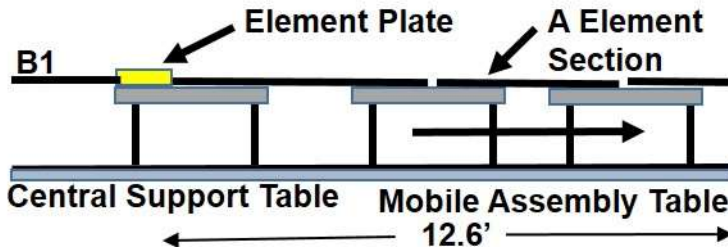
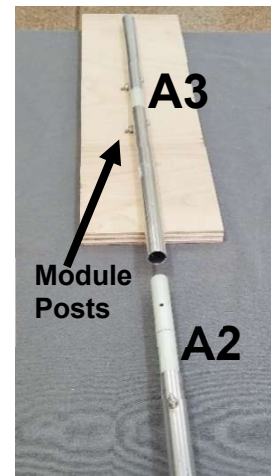
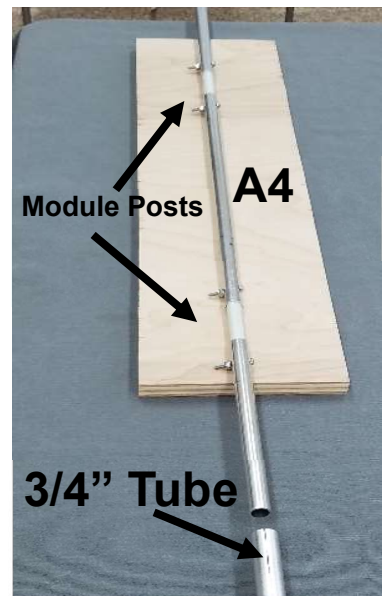

FIGURE 31
FIGURE 32
FIGURE 44
The next steps will be adding sections A3 and A4 to section A2 of half-element A. As a result, the half-element length will increase from the (A1+A2) length of about 7 ft, to 13 ft. Long flat surface areas are not practical for most assemblers and are not necessary. If one stationary table is used for element plate support, then a second mobile table can be used for assembly. Thus, there is no need for a long surface area. (**FIG. 31**).
- (1) #8-32 lock nut (11702)
- (2) #8 washers (11703).
- STEP 6.28** Locate sections A2 and A3, as shown in **FIGs 32 and 34**.
- STEP 6.29** Sections A3 should be placed on a smooth soft flat surface with section A2, as shown in **FIG.32**. A 1/2" X 3' wood support elevates section A3 to the A2 level. Ideally, this long flat surface can be accomplished by two 4 → 5 ft long tables, as shown in **FIG. 31**. Ideally, each table is of same height. Any suitable long flat surface area may be used.
- STEP 6.30** Position section A3 such that A3 lays FLAT on the 1/2" support wood, with module support post facing same side as the 4 holes on long edge of element plate. (**FIG. 32.**)
- **STEP 6.40** Locate section A4 (1304), as shown in **FIGs 44, 48**.
- **STEP 6.41** Section A4 should be placed on a smooth soft flat surface in-line with 3/4" tube, as shown in **FIG. 44**. A 1/2" X 3' wood support elevates section A4 to the 3/4" tube level. Use table support method described for **FIG. 31**, for this assembly.
- **STEP 6.42** Position A4 such that A4 lays FLAT on the 1/2" support wood, with module support post facing same side as the 4 holes on long edge of element plate (**FIG 44**).
- **STEP 6.43** Align and position non-slotted section A4 relative to the 3/4" slotted tube, as shown in **FIGs 44 and 45**.